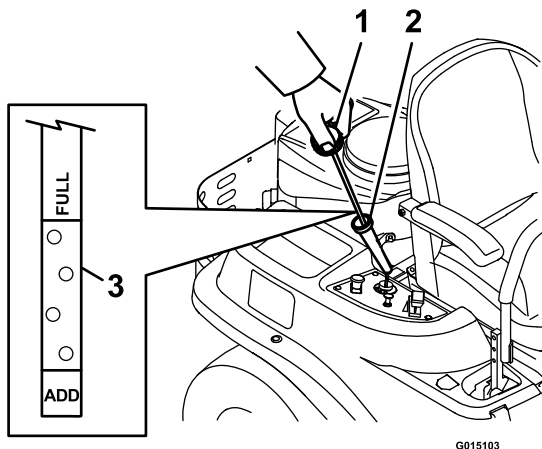

Figure 24
4. Remove the oil fill cap/dipstick; wipe oil off. Reinsert the dipstick push into place, but **Do Not** screw it in (Figure 24).
14. Check the oil level (Figure 24); refer to **Checking the Oil Level** section.